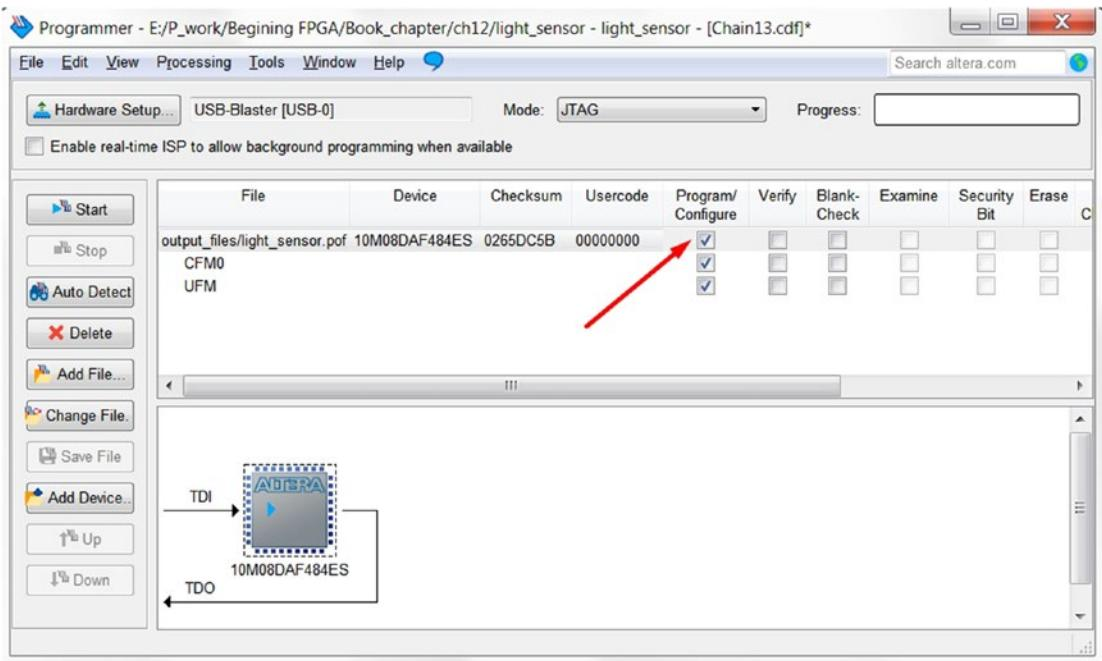

Figure 12-48. Start to program the design with the .poffile
Step 4: If you want to make the design able to reload after power is lost on the board, you need to select `light_sensor.pof` file. This file will ask the programmer to program the file to the flash memory which is nonvolatile. Figure 12-48 shows the difference when you select a `.pof` file. I suggest you use the `.sof` file to try out a couple of times and tune the high boundary and low boundary values. You can use the `.pof` file to program the FPGA when it is close to the final design. Remember to check the **Program/configure** box before you click the **Start** button.